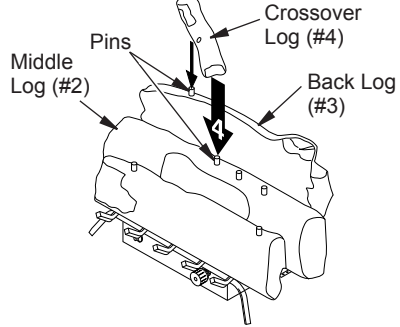

Figure 22 - Installing Crossover Log #4 (CCL3924PTA/NTA Shown)
4. Locate holes on bottom of crossover log (#4). Slide front hole onto left pin (CCL3924PTA/NTA) or middle pin (CCL3018PTA/NTA) on middle log (#2) and pin on back log (#3). See Figure 22, for placement.